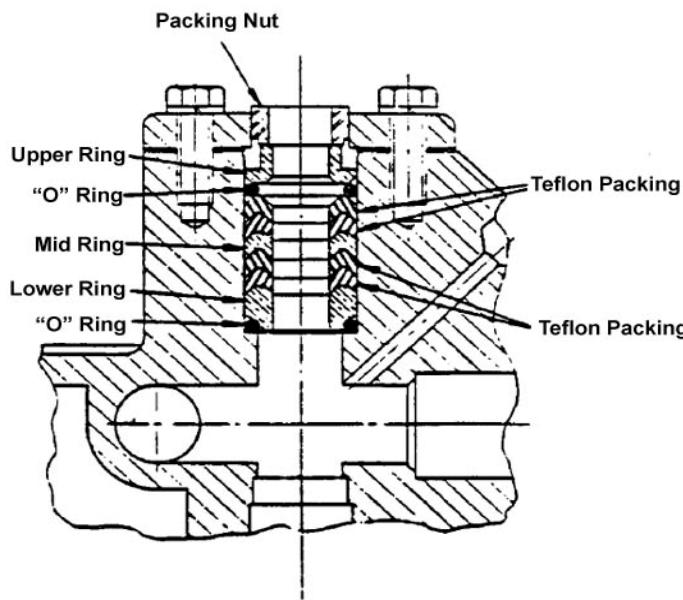

FIGURE 7-5. Metering Valve Packing Sequence
8. Lightly coat the stem with the lubricant provided with the packing kit. Place the new packing, o-rings, and guides onto the stem in the sequence shown in Figure 7-5. The beveled face of the guides and the Teflon rings must face upward, with the exception of the upper brass guide which is faced down. Make sure that the o-rings are properly located.